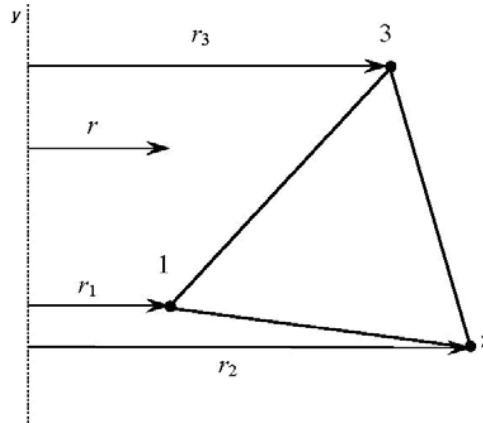

Figure 3
c) Evaluate the axisymmetric stiffness matrix  $\mathbf{K}$  of the triangular element shown in the figure 3. Consider the coordinates of nodes as 1 (2, 1), 2 (4, 0), and 3 (3, 2). Also assume  $E = 2.6 \text{ GPa}$  and  $\nu = 0.2$ .